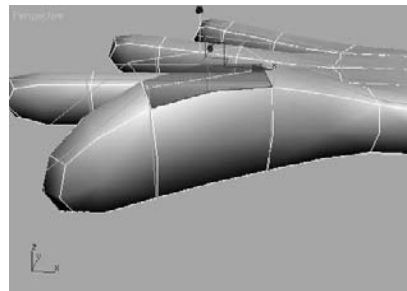

Figure 4.85
5. Make sure you are in Polygon sub-object mode. Press **F2** to toggle the Shaded Face mode, so that when you select a poly, it will be shaded in red and easier to see. Now, select a polygon on the hand and right-click to access the shortcuts menu. Select Transform → Move. Move the polygon in any direction. The polygon will pull the surrounding polygons with it, but the selection is softer (Figure 4.85). This makes it possible to model in a push and pull fashion, just as if molding clay.